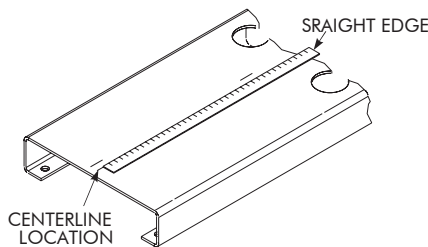

Figure 3C — Layout of Motor Mount Holes
- With a straight edge and a scribe, scribe a line that attaches the two midpoints. Reference Figure 3C. This is the centerline of the baseplate.